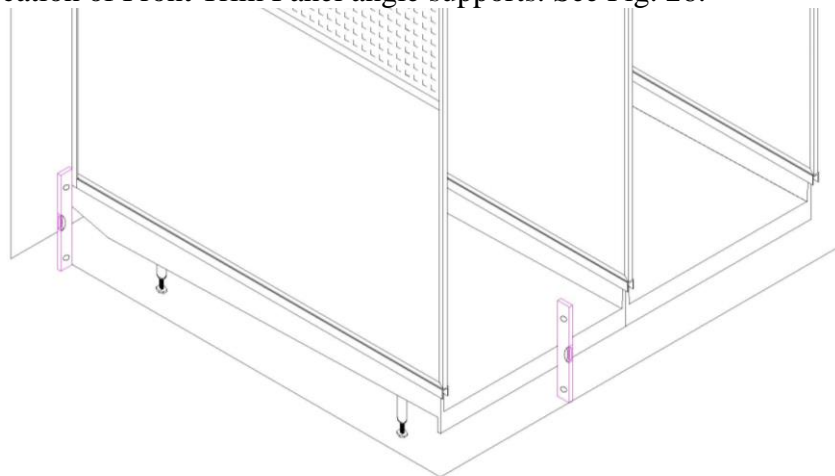

Fig. 26
1. After units have been set in place, leveled, and plumbing connected, use a level and chalk line to mark the floor location of Front Trim Panel angle supports. See Fig. 26.